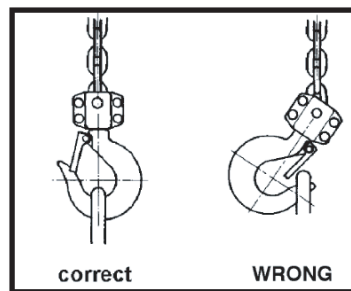

FIG 3
3. Place ropes or chain in the center of the bottom hook, making sure the safety latch is secure. Never load the hook in front of the safety latch. See FIG 3.